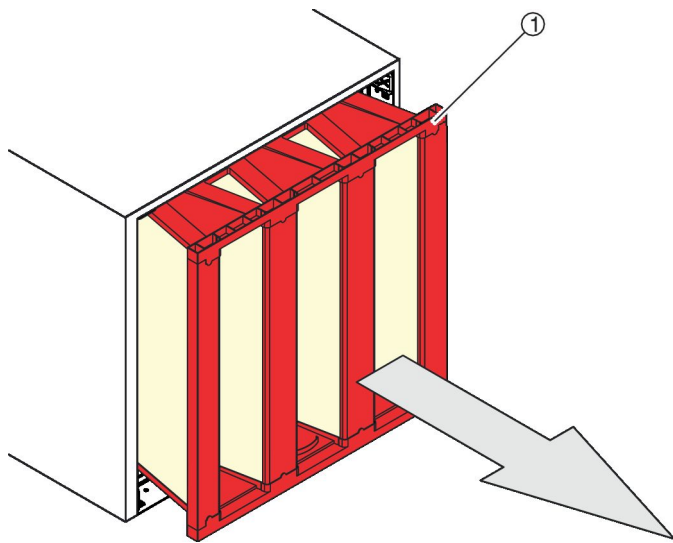

Fig. 58: Pulling out the filter
4. ▶ Pull the filter ( Fig. 58 /1) out to the front.